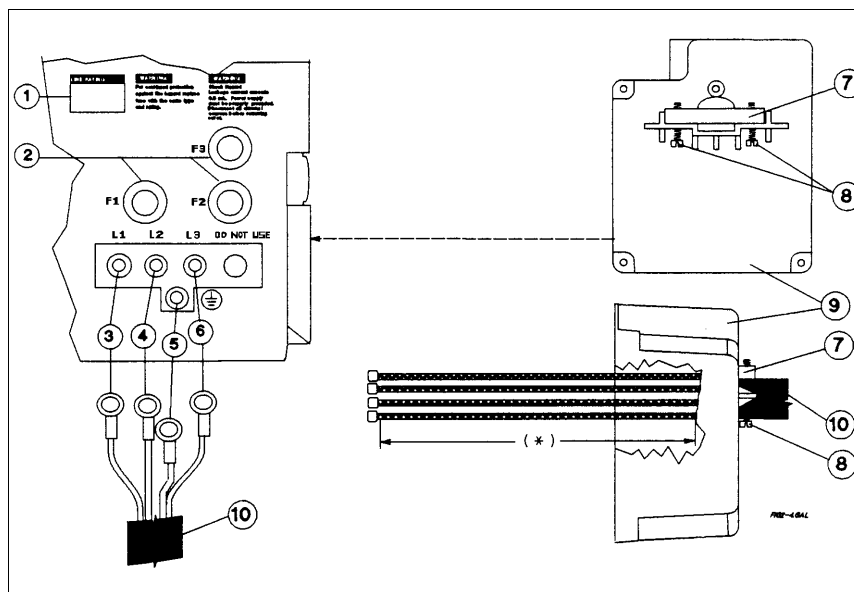

Figure 2-5. Connecting the Series 668xA Power Cord
See Figure 2-5 and proceed as follows:
1. Check the line fuses (2), Figure 2-5) as follows:
- a. Examine the **FUSES** label (1) on the rear panel.
- b. Unscrew the line fuse caps (2) from the rear panel and verify that all fuses are as specified on the label. Replace the fuses.
2. Open the line clamp (7) and insert the line cord (10) through the opening.
3. Position the line cord so that the clamp is near the end of the outside insulating sheath. Tighten the screws (8) securing the clamp.
*Phase 1 (3) to L1. Phase 2 (4) to L2. Phase 3 (6) to L3.
5. Secure the ground wire (5) to the chassis earth ground stud.